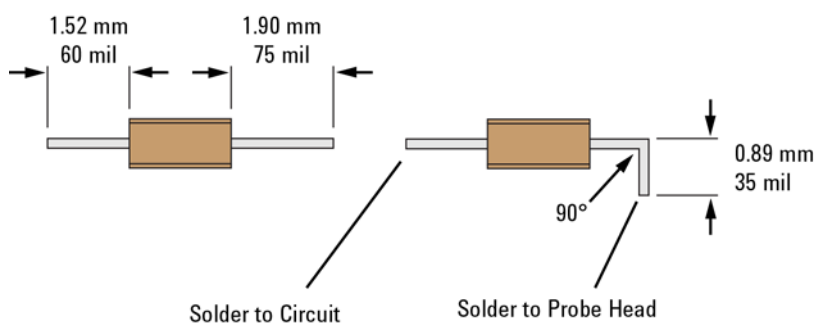
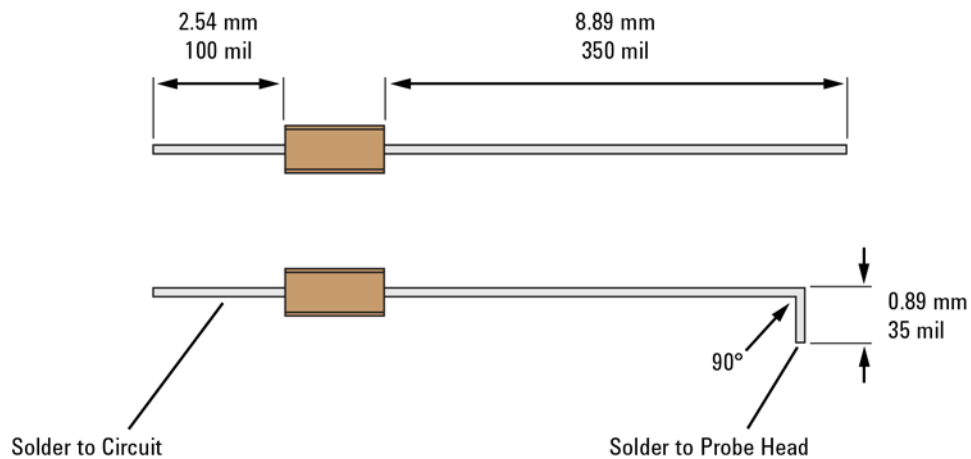

Figure 40 91Ω and 0Ω Combination Resistor Trim Dimensions
Figure 41 150Ω and 0Ω Combination Resistor Trim Dimensions
- 9 Using another pair of tweezers, bend the 1.90 mm or 8.89 mm lead 90° as shown in Figure 40 and Figure 41.